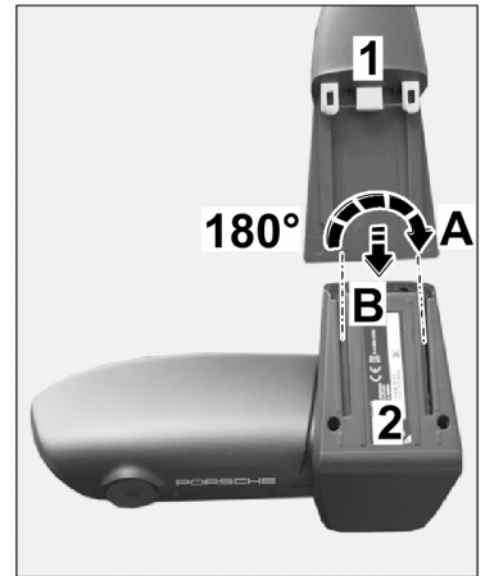

Figure 7
2.1.1 Install mounting plate with wiring harness on front camera base until locking mechanism engages. ⇒ *Figure 7*